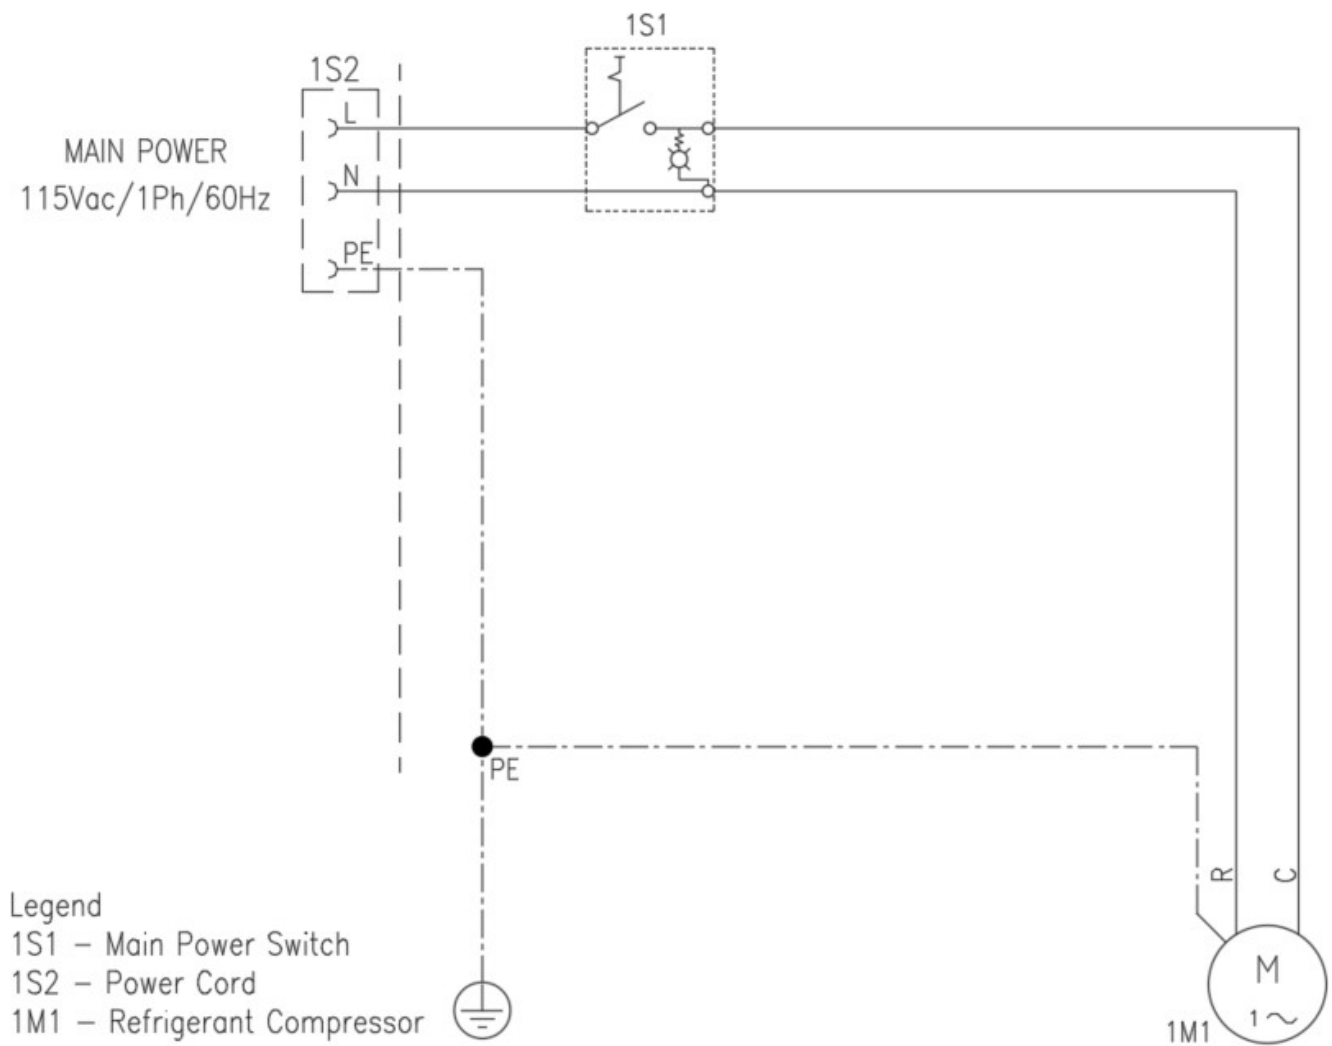

Figure 1: Electrical Schematic
3.6 Electrical Connections (See Figure 1)